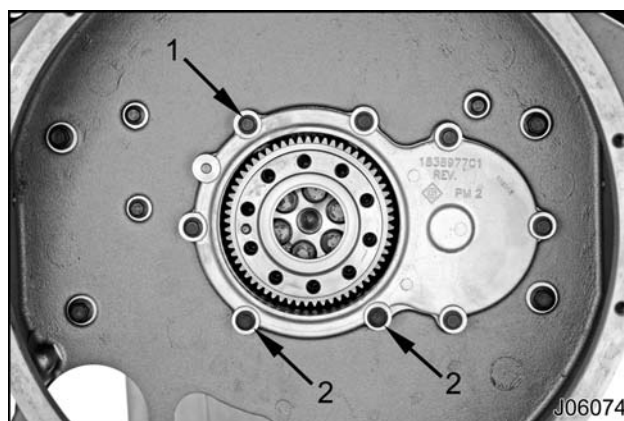

Figure 430 Rear oil seal carrier bolts (stripped chassis)
1. Bolts, M8 x 25 (6)
2. Bolts, M8 x 70 (2)
7. Install two M8 x 70 bolts in lower holes (Figure 430). Install six M8 x 25 bolts. Tighten eight bolts to standard torque (page 400).